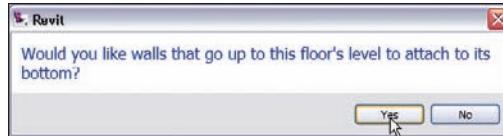

FIGURE 6.27 Click Yes to attach the walls to the floor's bottom.
6. Revit will start asking you questions. First Revit will ask you if you want to attach the walls that go up to Level 2 to the bottom of the floor. You *do* want to do this; this will cut the walls down to meet the bottom of the floor. Any change in the floor's thickness will alter the tops of the wall. Click Yes, as shown in Figure 6.27.